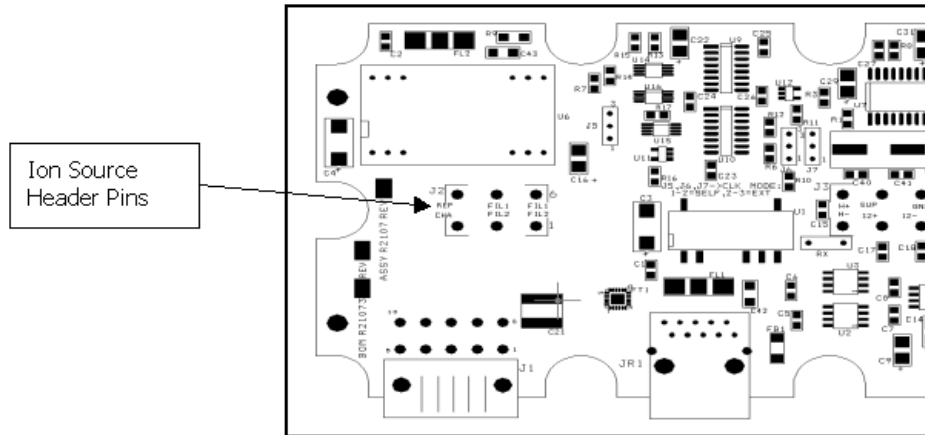

Figure B-56 Ion Source Header Pin Schematic
17. On the PCB, use the resistance meter to verify an open circuit between any two of the six ion source header pins (except FIL-1 to FIL-1 and FIL-2 to FIL-2 which should be 0.3 Ohms or less). Also verify an open circuit between the body of the spectrometer and any of the ion source header pins (Figure B-56). If there is continuity (short circuit) at any of the points, remove the header and inspect for shorting.